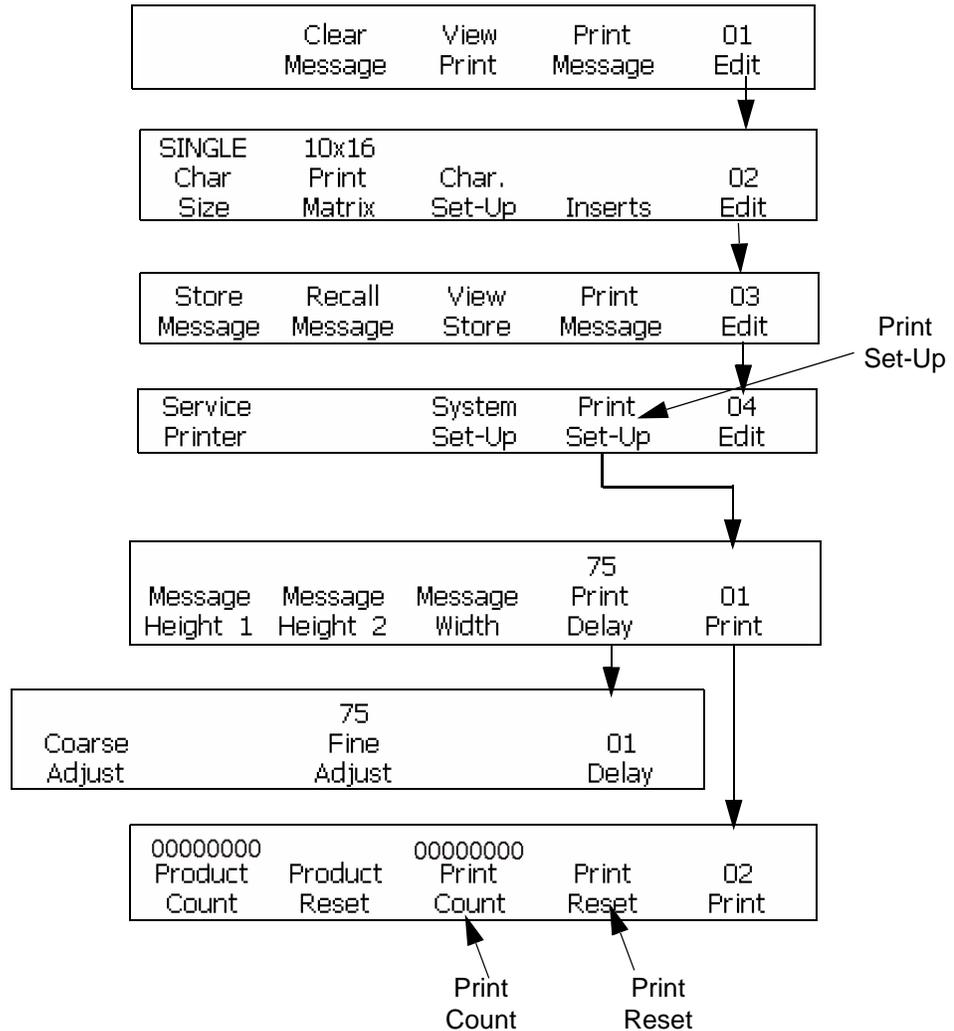

Figure 7-2: Access Menus <Print Reset> and <Print Count>
- 1 Begin with the frame <02 Print>. Refer to Figure 7-2 on page 7-3.